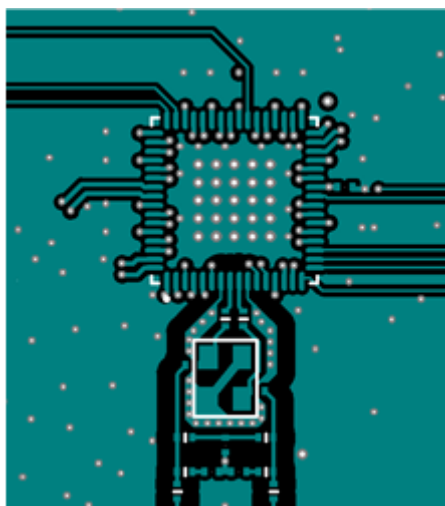
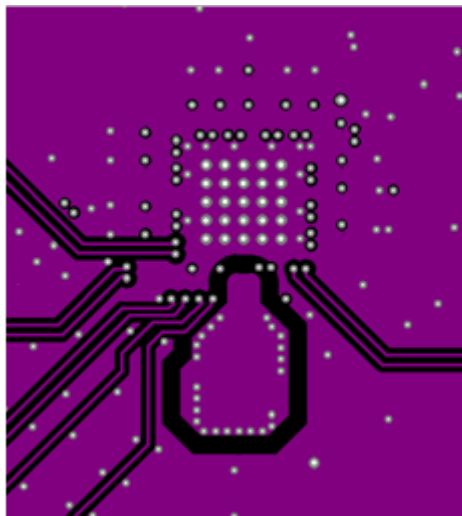

Figure 9.1. Si5380 Device and Crystal Layout Recommendations, Top Layer (Layer 1)
Figure 9.2. Input Clocks and Crystal Shield Layer, Below the Top Layer (Layer 2)
3. Connect the crystal's "GND" pins to the devices X1 and X2 pins via a local crystal shield placed around and under the crystal. See the bottom right diagram of Figure 9.1 Si5380 Device and Crystal Layout Recommendations, Top Layer \(Layer 1\) on page 62 for an illustration of how to connect the crystal shield by placing vias connecting the top layer traces to the shield layer underneath. The second layer of the ground shield is shown in Figure 9.2 Input Clocks and Crystal Shield Layer, Below the Top Layer \(Layer 2\) on page 63.